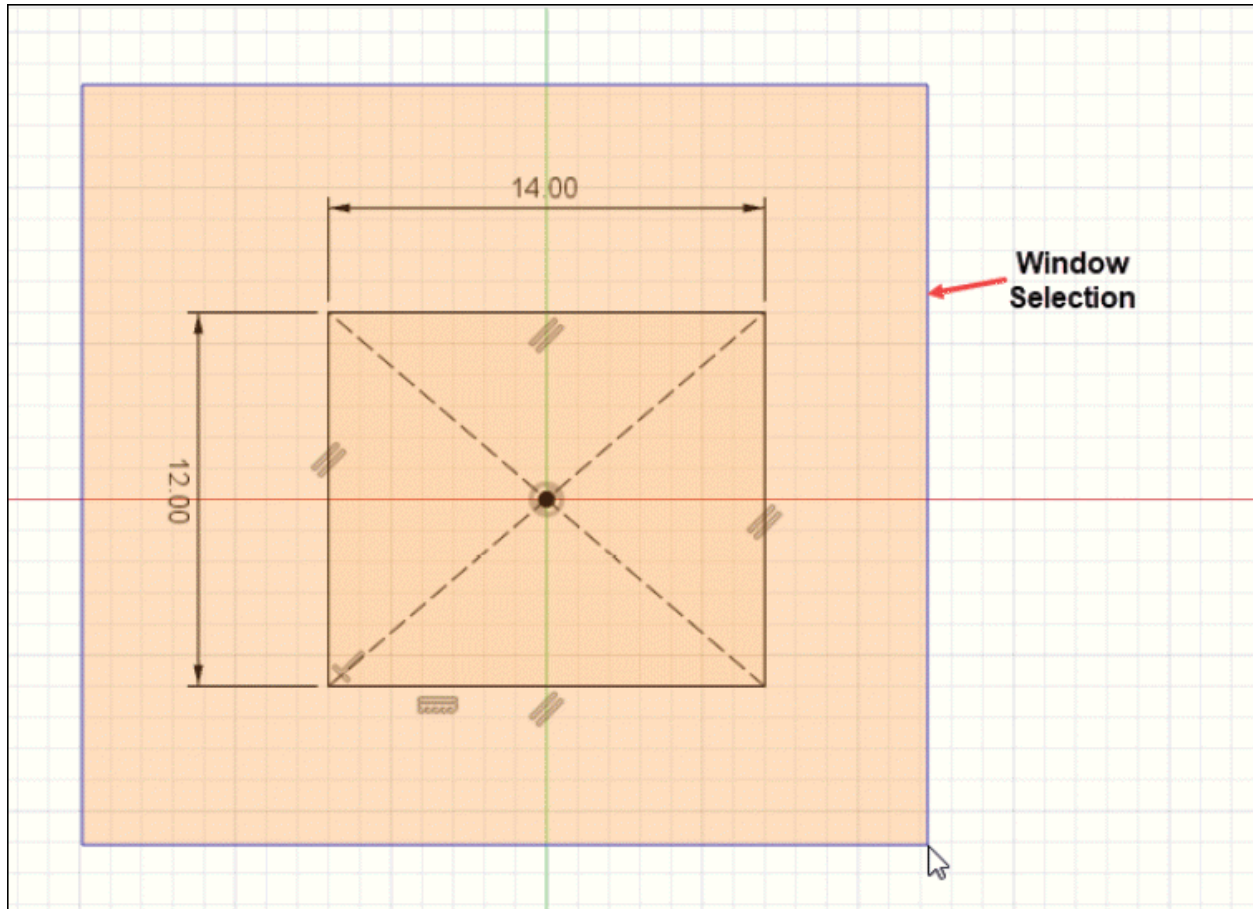

Figure-5. Window selection
- Nope! Don't exit the sketching environment yet!! Select the whole sketch by window selection; refer to Figure-5 and press **CTRL+C** from keyboard. This will keep a copy of current sketch in clipboard memory of software.